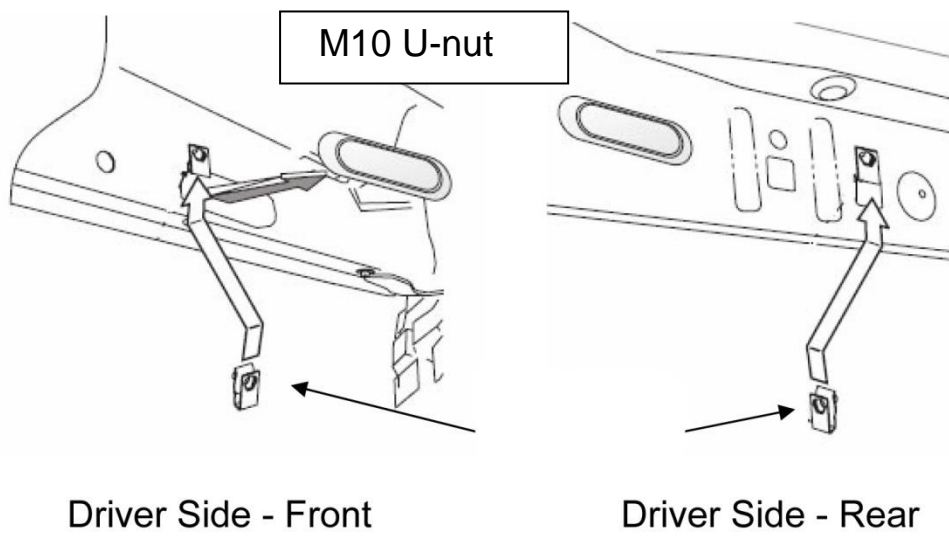

Figure 1. Driver Side – U Nut Position
1. Remove existing type or plug from underside of truck as shown. Install U-nut as shown. Figure 1.